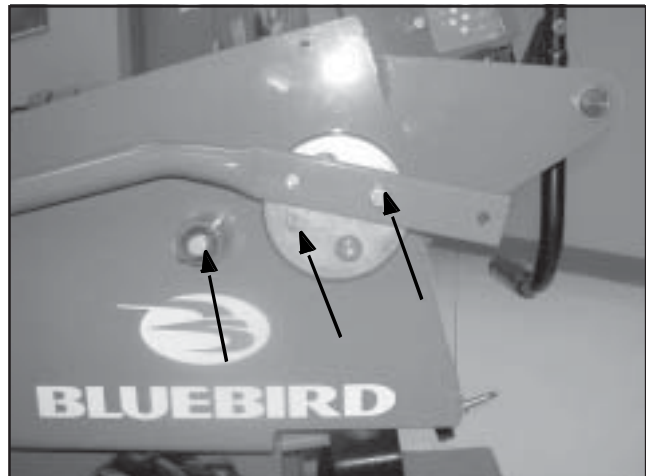

FIGURE 2
4. Remove tape from bolts by handle and remove the bolts from the nylon bushings. See Figure 2